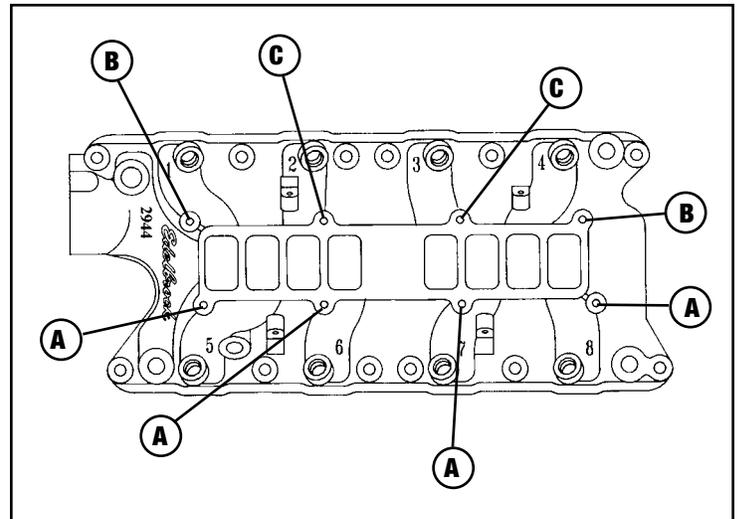

Figure 1—Intake Manifold top-to-bottom fastener locations
4. Install upper-to-lower manifold gasket (dry), Fiber Laminate Spacer, another upper-to-lower manifold gasket, and upper manifold using hardware supplied (see Figure 1 and Fastener Location chart). Upper manifold must be positioned so that the throttle body is on the passenger's side of vehicle, not driver's side.